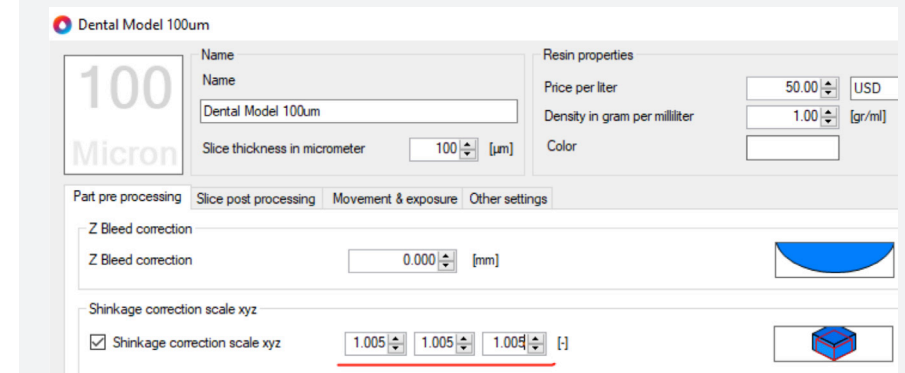

Figure 18
- In 'Part pre processing' tick the 'shrinkage correction scale xyz' box and enter '1.005' in the x, y and z boxes. Click 'Save' and then 'Save and close' (figure 18).